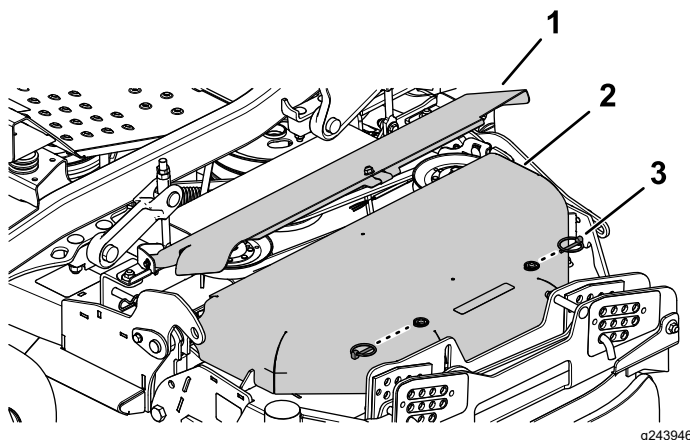

Figure 58
4. Remove the 2 lynch pins from the outer belt cover and remove the outer cover (Figure 58).
5. Rotate the inside belt cover upward (Figure 58).